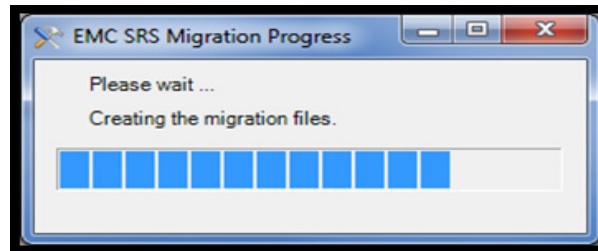

Figure 122 Dell EMC SRS Migration Progress Bar
4. Click **Next**. Once the migration process starts, a progress bar indicates the status of the migration, as shown in Figure 122 on page 98.